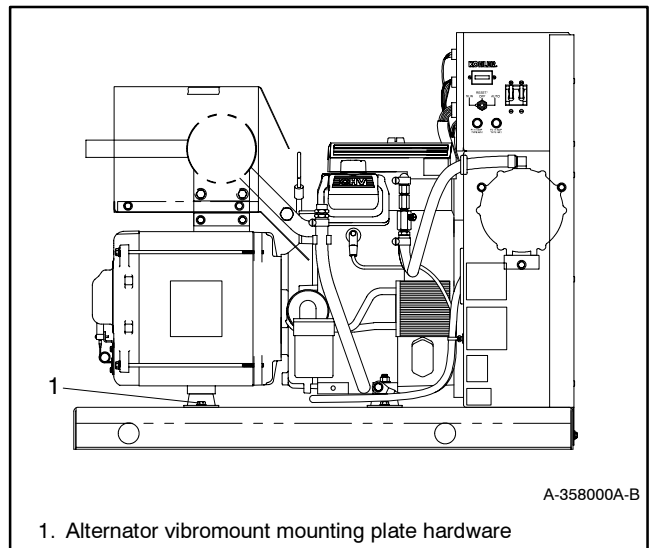

Figure 8-5 Generator Set, Right Side
- a. Remove two bolts securing the alternator vibromount mounting plate to the skid. See Figure 8-5.